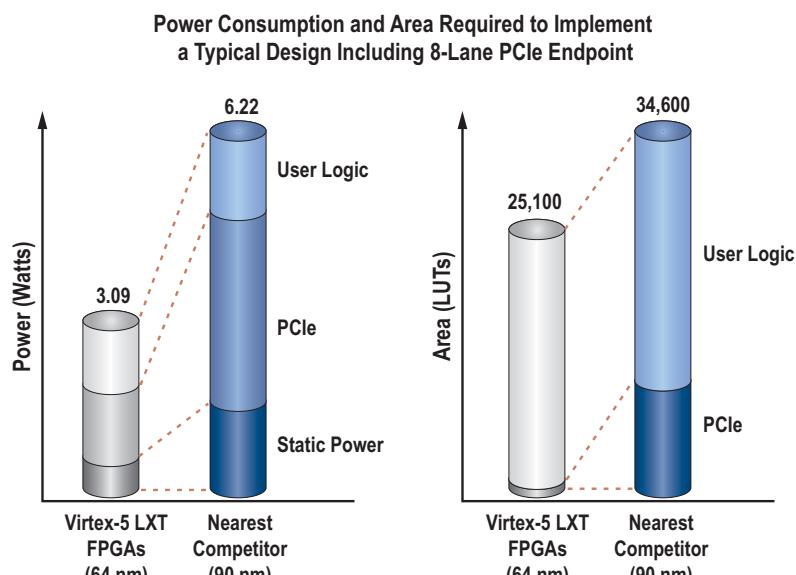

Figure 3 – Power and area savings of a high-performance Virtex-5 LXT PCIe solution
- Low power and reduced area. Applications that need higher performance but are designed to smaller form factors can use the Virtex-5 LXT solution (Figure 3). The PCIe Endpoint block allows you to be able to choose a smaller device and still achieve significant power and cost savings.